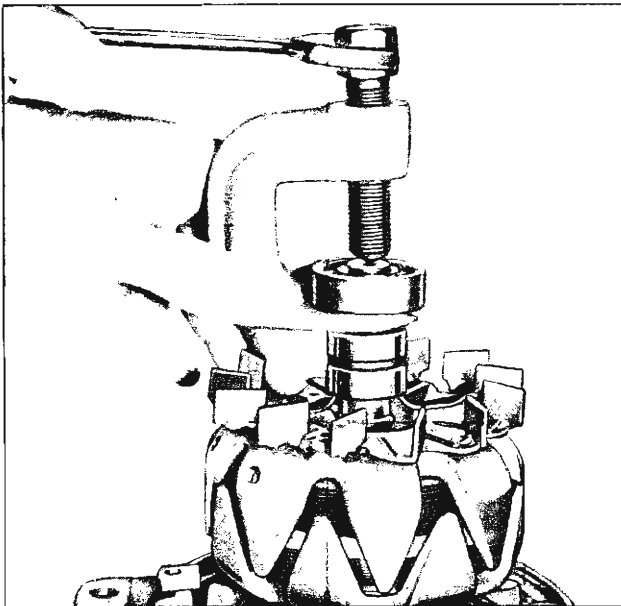

Fig. 31—Removing Bearing
9. To remove slip ring end frame bearing from rotor shaft, use Tool J-6627 as shown in Figure 31.
1. Remove bearing from rotor shaft using Tool J-6627 as shown in Figure 31.